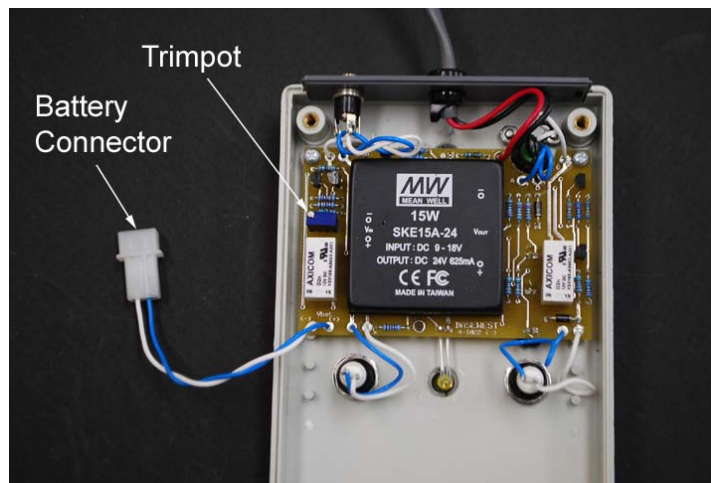

Figure 5 - Calibration References
- d) Adjust the trimpot (Figure 5) to the lowest setting necessary to illuminate the LOW BATTERY INDICATOR at DC power supply input of 10.0 volts.